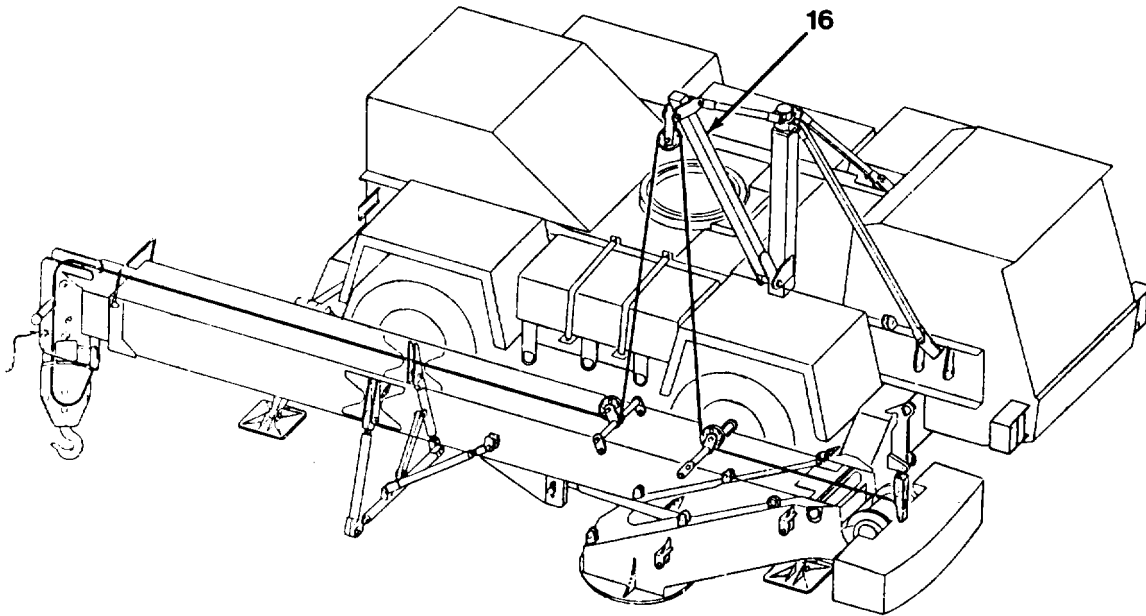

Figure 5-30 Lowering Upperstructure on Support
4. Lower upperstructure on to front support between outriggers. Position of lift arm (16) should be straight out from side of carrier frame (Figure 5-30).